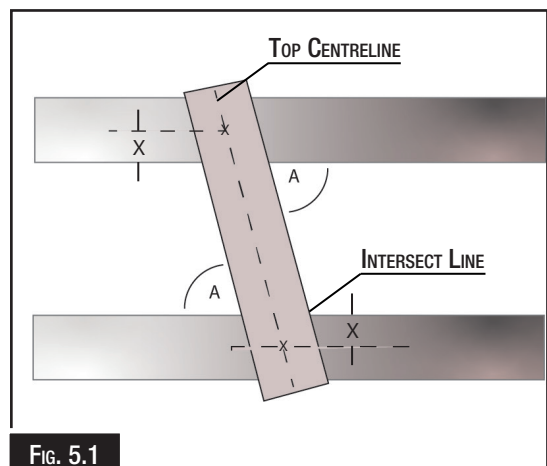

Fig. 5.1
2. Determine top point and centerline, and mark these on tube (Fig. 5.1).
7. Use the handwheel to bring the hole saw forward to align edge of the hole saw with the intersect mark on tube. (Fig. 5.1) When positioned, tighten the tube securely in the vice to prevent deflection during the cut.